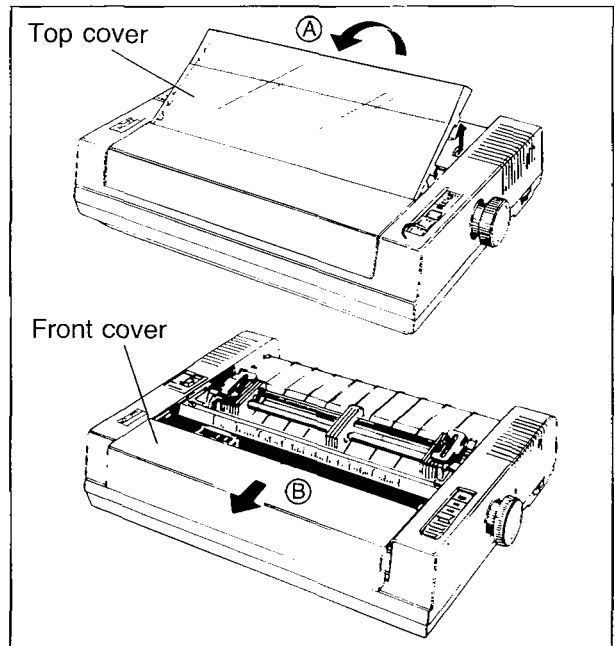

Figure 2.1 Removing the Printer Cover
To remove the top cover (A), lift the cover in the direction shown in Figure 2.1. Remove the front cover (B) by pulling it forward and up.